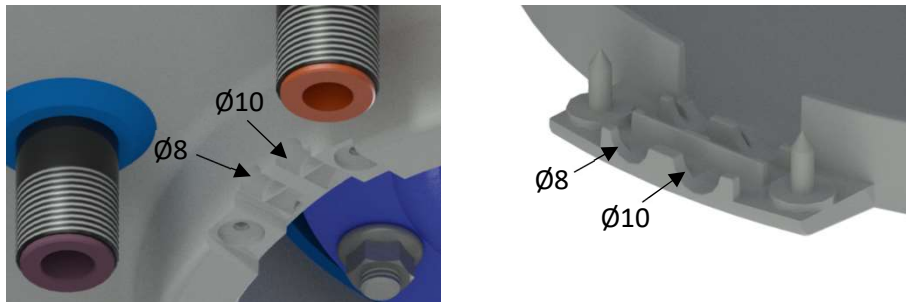
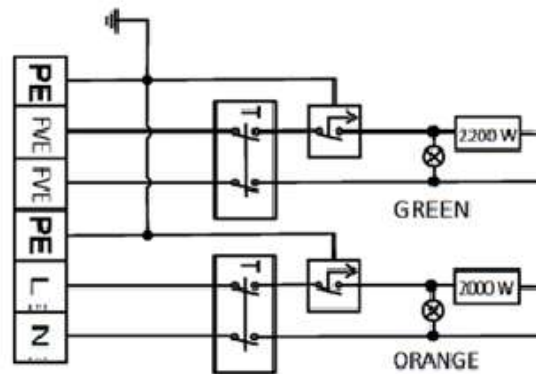
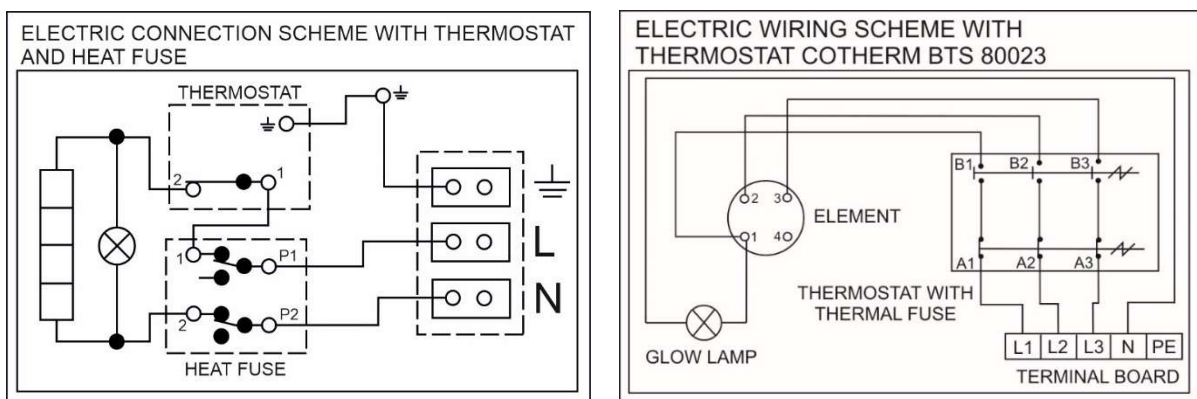

Figure 7
Figure 8
Figure 9
Perform the connection according to the scheme. Factory connection must not be changed! (Figure 8, Figure 9) the electric wiring casing remove the partition corresponding with the input wire diameter of $\varnothing 8$ or $\varnothing 10$ (Figure 7). The degree of protection of electric parts of the heater is IP 44. Power input of electric element is 2000 W and 2200 W for heater OKCE 2/2 kW. Power input of electric element is 2000 W and 4000 W for heater OKCE 2/4 kW.
- The electric wiring scheme is attached to the water heater on the side of the electric installation guard (Figure 9)